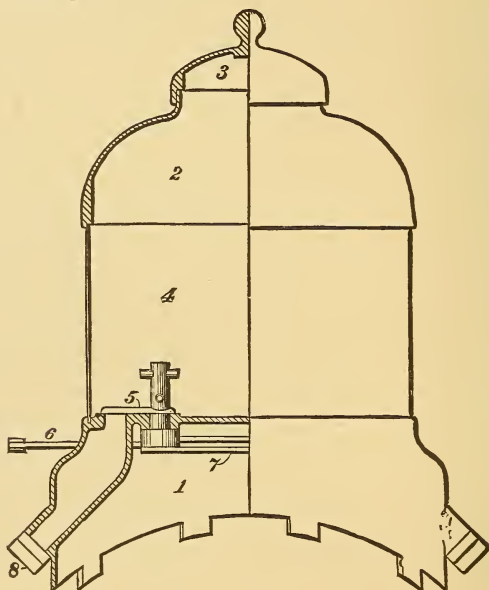

Fig. 136. Sand-box Work.
A. Usually on top of the boiler ; but in recent practice one has been put lower down, each side, between the drivers, so that the sand may be nearer where it is wanted and have less chance to stick in the pipe in case it gets frozen. (See figure 136.)